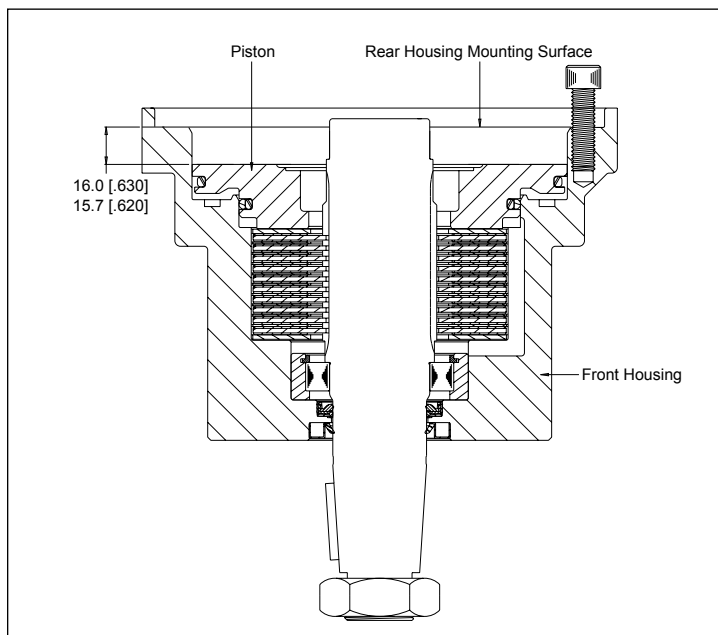

FIGURE 2
- I)** If servicing a 710 Series, install bearing shims (not shown in exploded view) in housing followed by front housing bearing (16). If servicing a DR motor, install front housing bearing (16) into housing making sure that the snap ring that retains bearing rolls faces up. Making sure not to cut seal lip with shaft keyway, install shaft (35) into housing (15).
- J)** Install one disk stamping (18) into housing making sure that lugs or splines engage those in housing (15). Install one friction disk (17) engaging splines on disk with those on shaft. Alternate disk stampings and friction disks until all disks except thick disk stamping (19) are installed. Install thick disk stamping (19) lastly on top of disk assembly.
- K)** Install small O-Ring seal (5) and large O-Ring seal (7) into corresponding grooves in piston (20). Install small seal (6) and large seal (8) in corresponding grooves over O-Ring seals. Thoroughly coat seals and sealing surfaces of housing (15) with clean oil. With large O.D. side of piston (20) facing up, install piston (20) into housing (15) and evenly press piston down making sure not to pinch seals. (If the disks and disk stampings are going to be replaced, the stack up on the new disks must be between 15.7 - 16.0 [.620 - .630]. Use Figure 2 for measuring reference.)
- L)** Install springs (21) on top of piston. Install O-Ring Seal (9) in groove in rear surface of housing (15). If servicing a 710 series, install rear bearing (16) in rear housing (23). If servicing a 610 series, and rear shaft bearing (16) and spacer shim(s) (22) came out of rear housing (23), reinstall at this time by placing spacer shim(s) (22) into rear housing (23). Install rear shaft bearing (16) making sure that snap ring that retains bearing rolls faces out. Place rear housing (23) onto front of housing (15) lining up bolt holes.